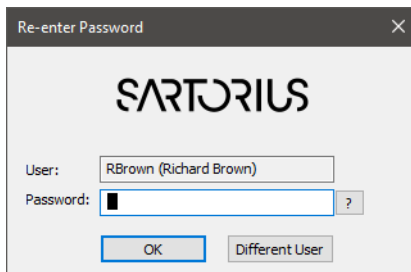

Figure 12-16: Re-enter Password Dialog Box
2. Enter your reason for signing and click **Sign**. The Re-enter Password dialog box displays (Figure 12-16).